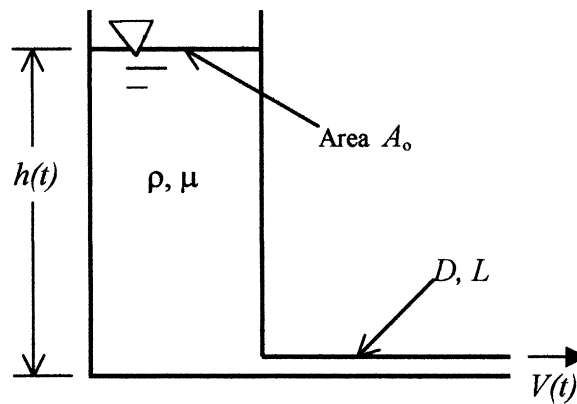

Fig. P4.92
**4.92** A tank of area  $A_o$  is draining in laminar flow through a pipe of diameter  $D$  and length  $L$ , as shown in Fig. P4.92. Neglecting the exit-jet kinetic energy and assuming the pipe flow is driven by the hydrostatic pressure at its entrance, derive a formula for the tank level  $h(t)$  if its initial level is  $h_o$ .